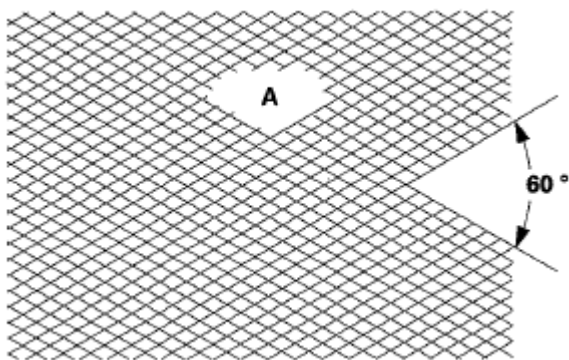

Fig. 35: Identifying Cylinder Bore Honing Cross-Hatch Pattern
2. Hone the cylinder bores with honing oil and a fine (400 grit) stone in a 60 degree cross-hatch pattern (A). (See **Fig. 35**)